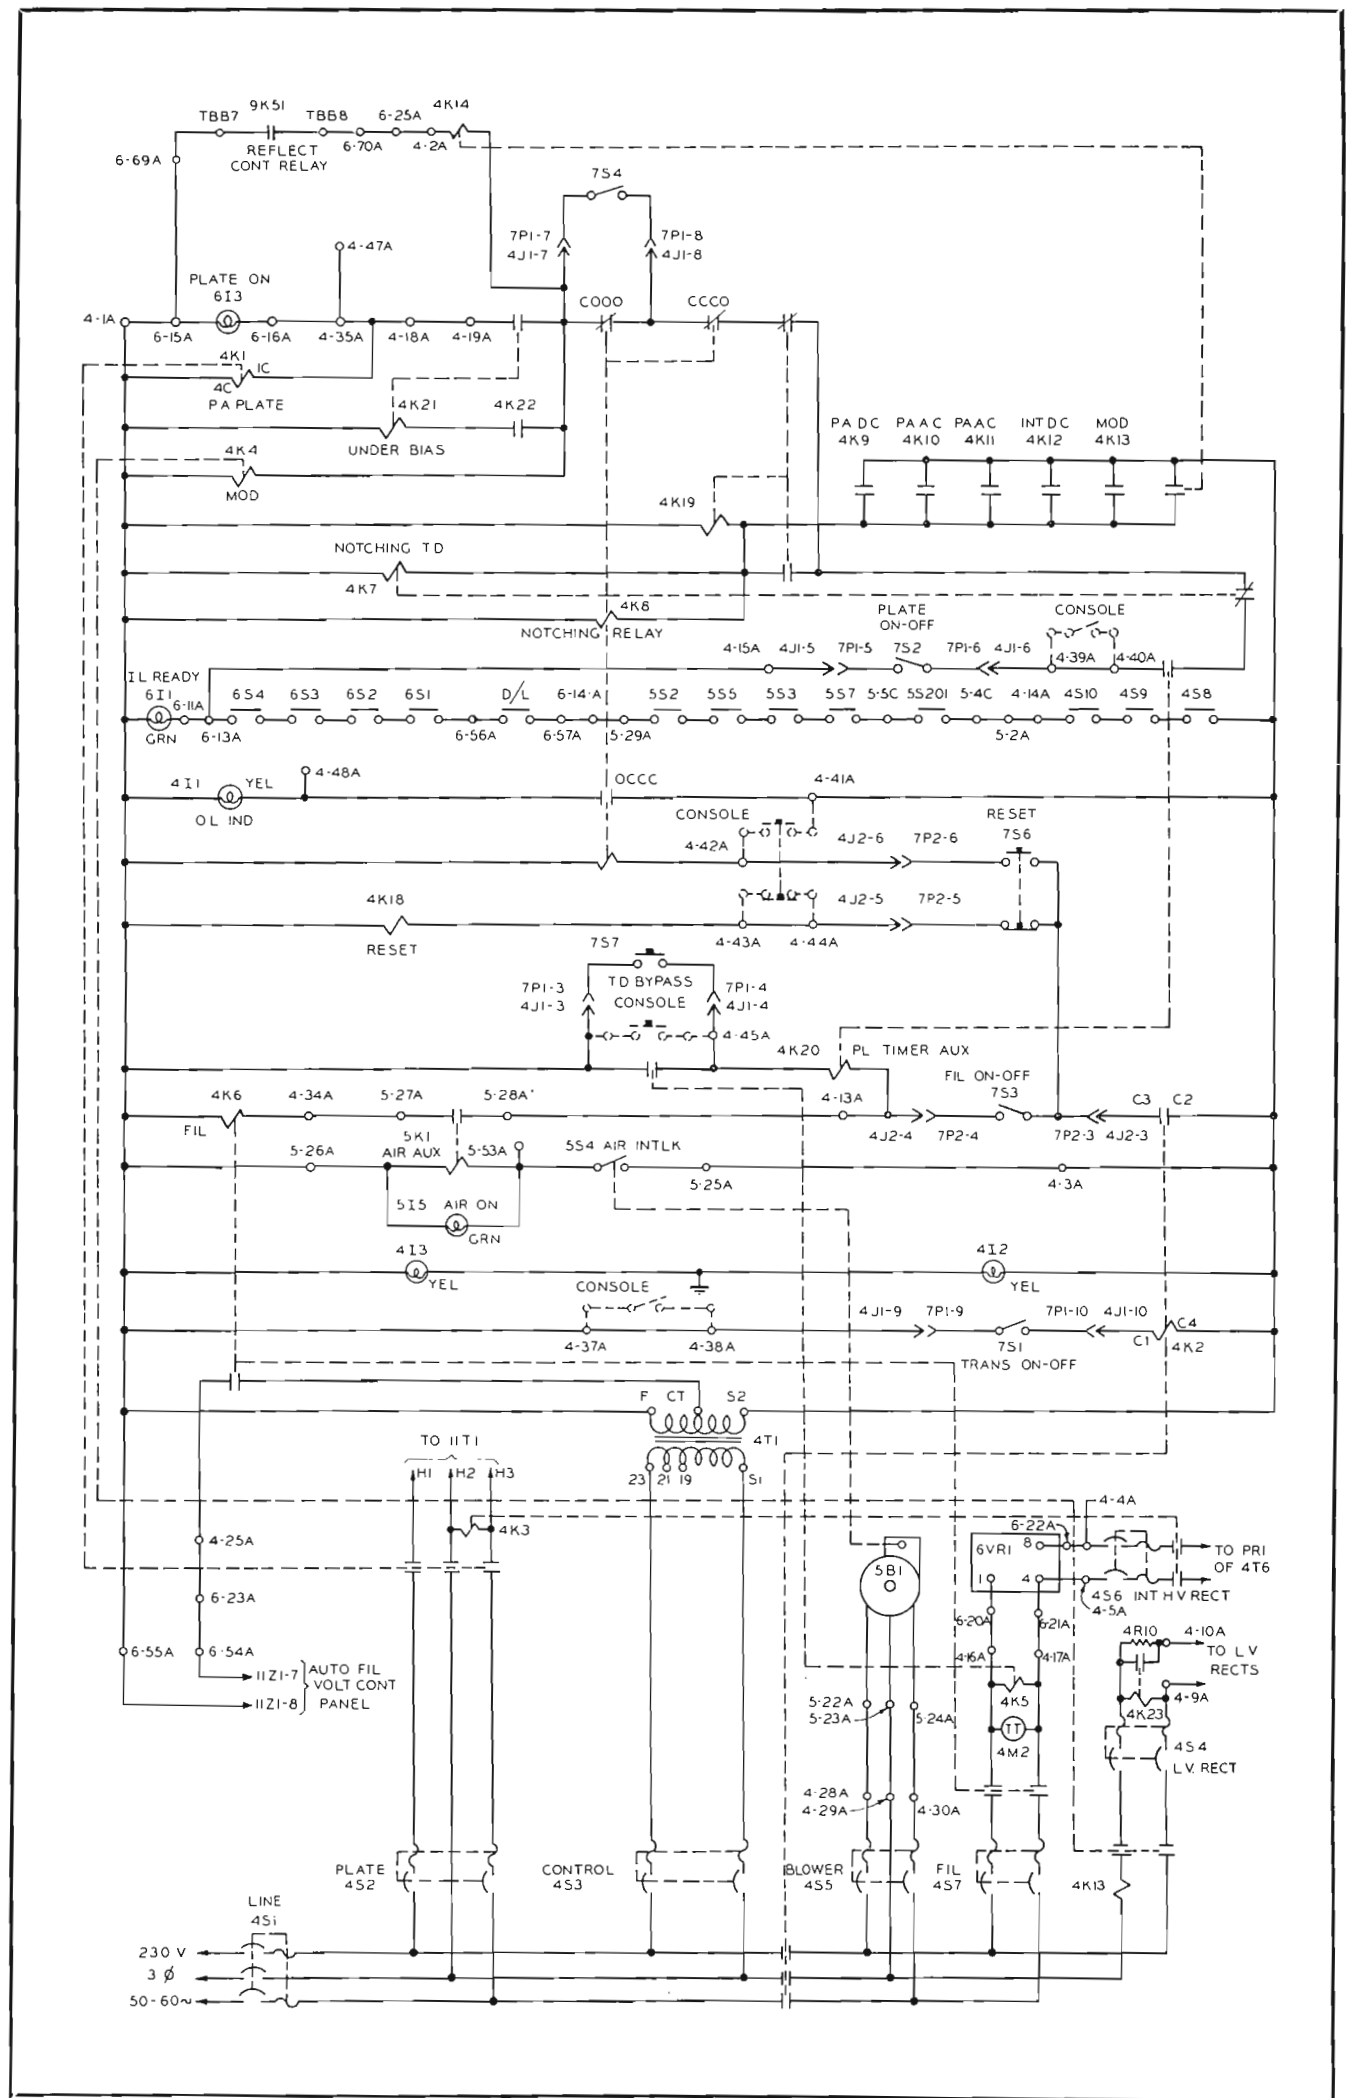

FIG. 2. Control circuit ladder diagram showing the arrangement of relays and contactors in the RCA TT-10AH, 10 kw VHF Transmitter.
FIG. 2. Floor plan layout of the new WEAU-TV and radio building. The equipment layout and arrangement of control facilities is similar to the RCA Basic Buy station. Easy visibility is made possible from the control room into (1) the main studio, (2) projection room and (3) the transmitter room area.
TV stations going into color can speed up the installation and adjustment of color receivers in their area by making use of the RCA Type WA-8A Color Stripe Generator (Fig. 1). It enables any TV station (which is equipped to transmit network color) to add a narrow color stripe to its regular black and white television signal. This stripe is practically unnoticeable on ordinary black and white receivers. However, on color receivers it produces a thin vertical stripe of greenish-yellow color at the right hand edge of the picture (Fig. 2). By simply observing the presence, or absence, of this color stripe the serviceman can tell whether or not the color receiver he has just installed will receive the station's color pictures—even though the station at that moment is telecasting only black and white pictures.
FIG. 2. Station test pattern revealing how WA-8A Color Stripe Generator enables any TV station which is equipped to transmit network color to add a narrow color stripe to its regular black and white television signal. On color home receiver tube a thin vertical stripe of greenish yellow color appears at the right hand edge of the picture as shown above.